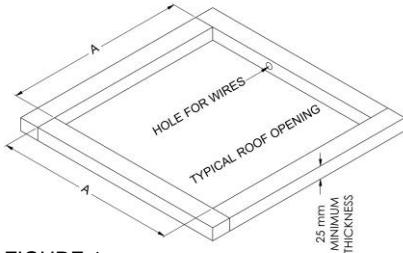

FIGURE 1
3. Examine the roof opening. If the opening is smaller than dimensions shown in the chart in Figure 1, the opening must be enlarged.
B. If a roof vent opening is not used, a new opening (See Figure 1) will have to be cut into the vehicle roof. A matching opening will also have to be cut into the interior vehicle ceiling. If the ceiling opening is carpeted, snagging could occur. After the opening in the roof and interior ceiling are the correct size, a framed support structure must be provided between the exterior roof top and interior ceiling. The reinforced framed structure must provide the following guidelines:
Airxcel, Inc. recommends that the spacing from the vehicle roof top to the interior ceiling top be no less than 25mm. A typical support frame is shown in Figure 1.